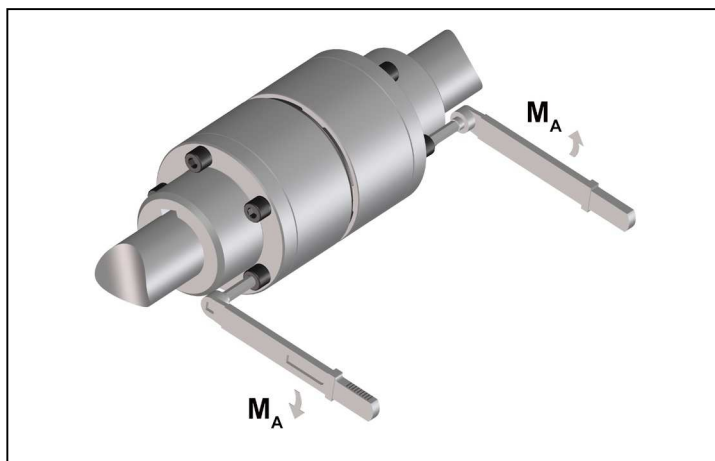

Fig. 11
- Tighten up the bush screw fitting with the tightening torque M_A stipulated in table 7 (Figure 11).